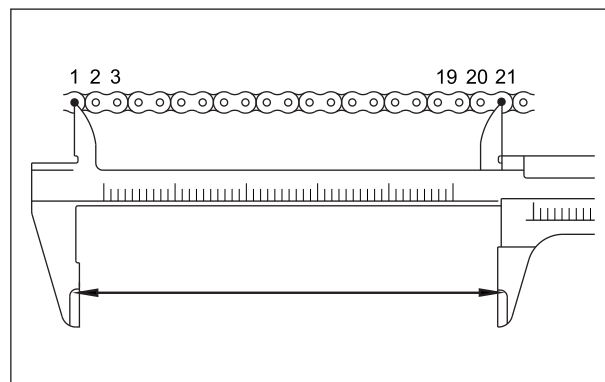

Fig. 2.99
- Similarly, to check the drive chain elongation, count 21 pins on the drive chain and measure the distance between 20 pitch. (Fig. 2.99)